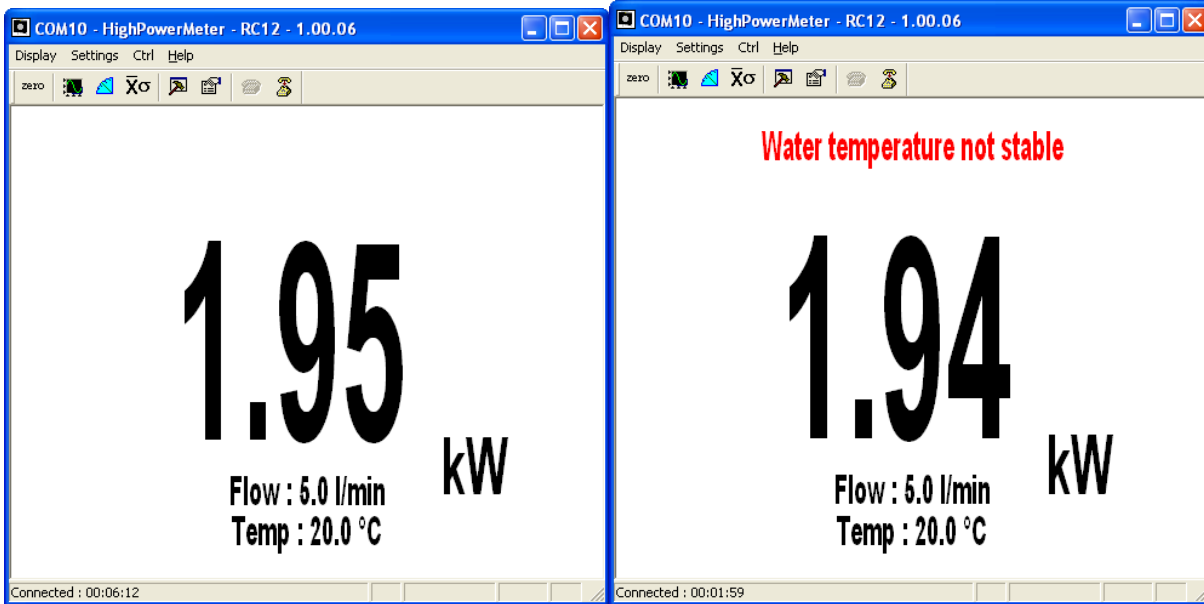

FIG. 2-2 A & B PC-HP INTERFACE WARNINGS
- The flow rate and temperature are shown in black fonts in normal conditions (FIG 2.2 A).
- If the water temperature is not stable a message will appear (FIG 2.2 B).